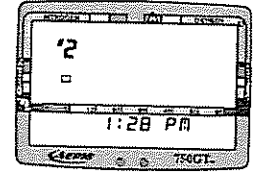

Fig. 74 - Log (second screen)
5. Press the Advance/Left button once more to display the Time of Day (Fig. 74) when the dive started.